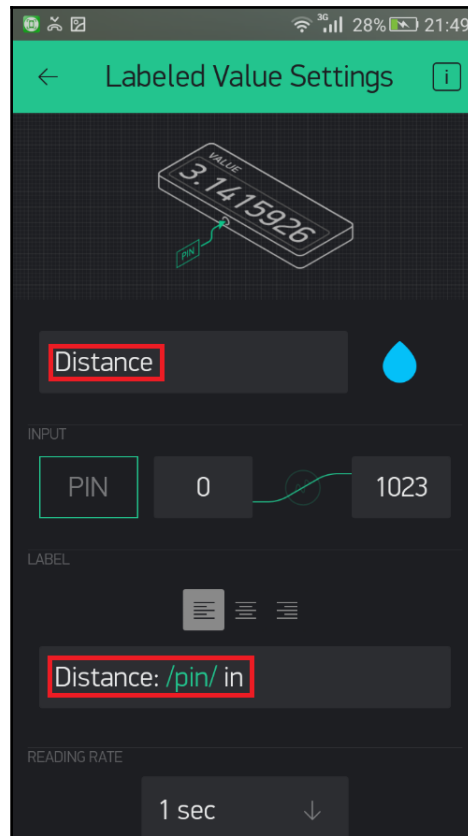

Figure 3.9: The Labeled value settings
- Under **LABEL**, replace the default text, **LABEL** with **Distance: /pin/** in. The **/pin/** reserves a placeholder for the calculated distance values. Also, **in** indicates the distance in inches. As an instance, the value 50 can be displayed as **Distance: 50 in** (Figure 3.9). Keep **READING RATE** as **1 sec**: